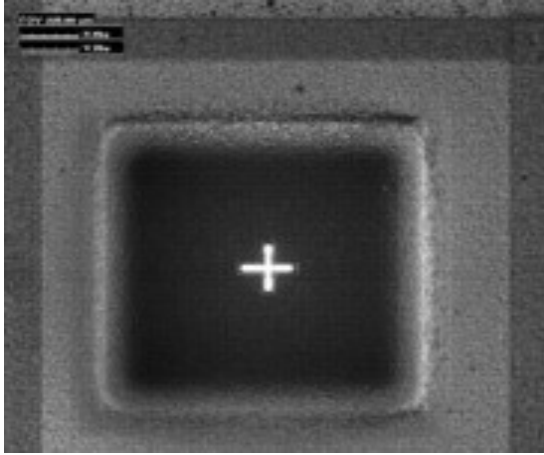

Figure 7: High-resolution trenching enables edits at advanced nodes. [Image courtesy of FIB International Inc.]
- In another example, Fig. 7 shows a typical back-side FIB circuit edit in which a probe pad is formed for micro probing. This allows direct probing on the bench. This allows very specific portions of the circuitry to be analyzed.